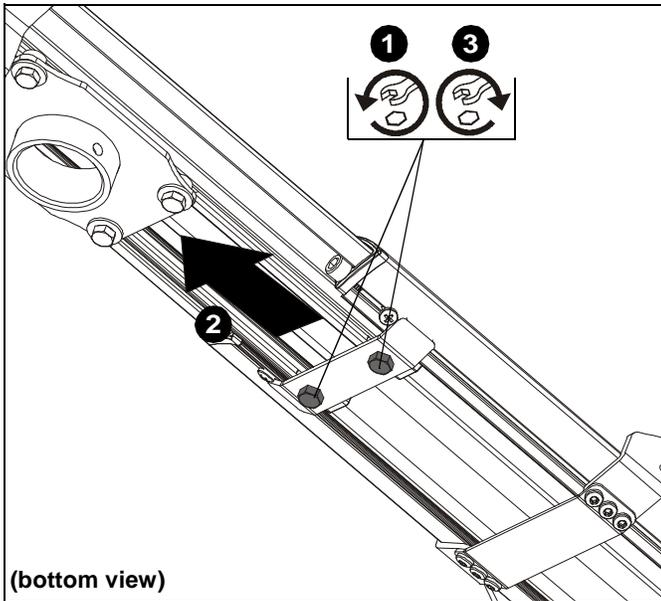

Figure 31
1. Loosen two bolts holding stop bracket in place on underside of WMA2S mount. (See Figure 31)
2. Adjust mount to desired extension length. (See Figure 31)
3. Tighten two bolts holding stop bracket to secure mount in desired position. (See Figure 31)